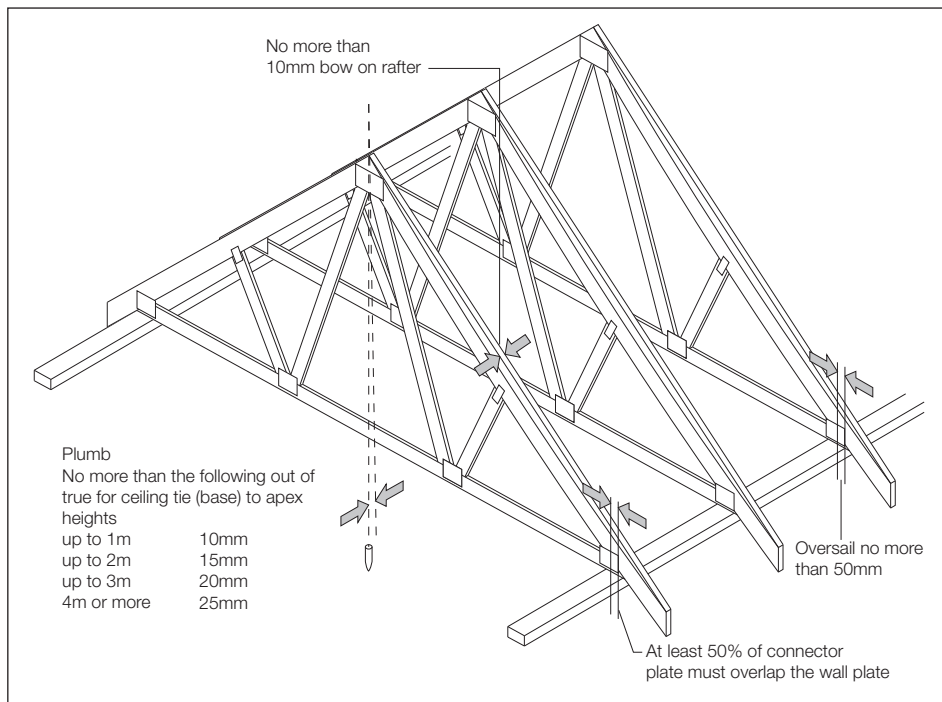

Fig. 5 – Typical trussed rafter roof showing tolerances
- 2 Roof structure is to an acceptable squareness, tolerance and to specified pitch (Fig. 5).